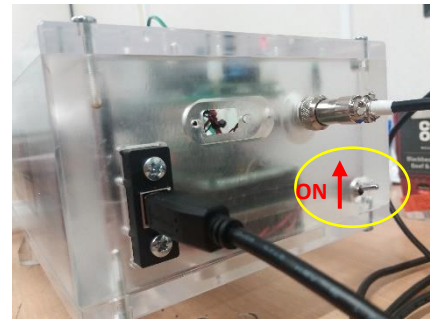

Figure 20. Arduino connections details.
- g) Make sure that the ON/OFF Arduino button is in ON mode (See Figure 20).